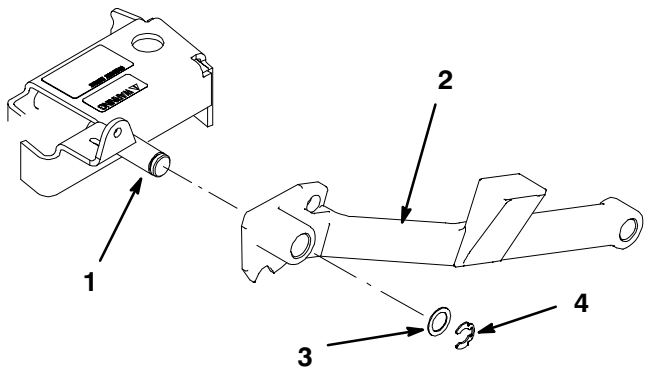

Figure 76
3. Remove the retaining ring and flat washer securing the push arm to the mower (Fig. 76).
6. Place push arm onto carrier frame pin and secure with 1-1/2" (38 mm) flat washer and retaining ring (Fig 76).